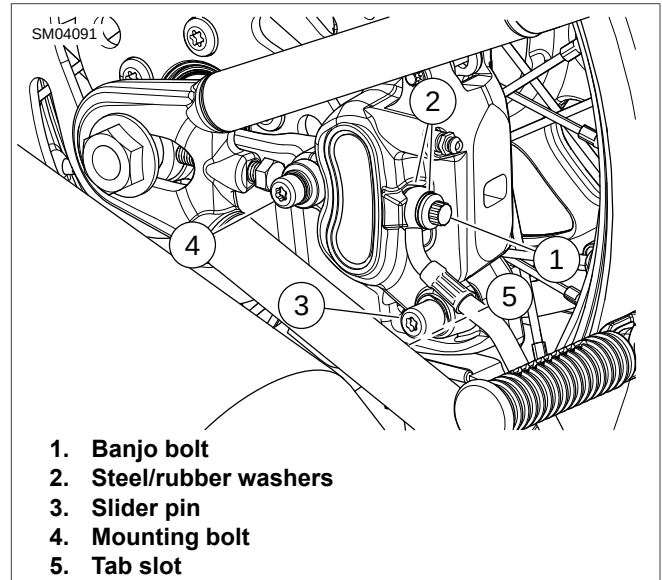

Figure 2-64. Rear Caliper
1. See Figure 2-64. Remove the banjo bolt (1) and both steel/rubber washers (2) to detach rear brake line from caliper. Discard washers.
2. Remove both the slider pin (3) and mounting bolt (4) (metric). Remove caliper assembly from brake disc.
3. See Figure 2-64. Install caliper with pads on caliper mount. Tighten slider pin (3) and mounting bolt (4) (metric) to 16-20 ft-lbs (21.7-27.1 Nm). Verify tabs on brake pads engage slot (5) in caliper mount.